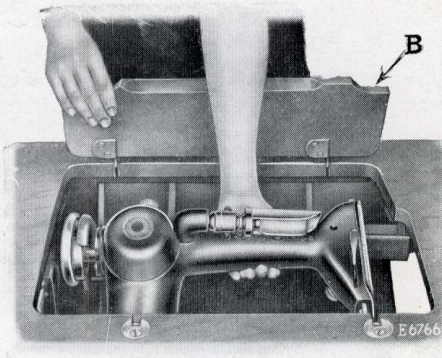
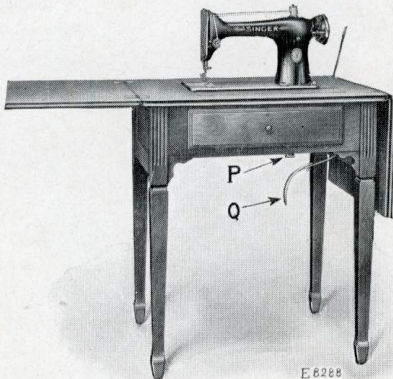

FIG. 5. RAISING MACHINE OUT OF CABINET 40
FIG. 6. KNEE LEVER LOWERED TO OPERATING POSITION
With the right hand raise the front hinged portion (B, Fig. 5) of the table, and at the same time, place the left hand under the front side of the arm of the machine, as shown in Fig. 5, **being very careful not to touch the electric lamp or shade**, and raise the sewing machine head, then replace the hinged portion of the table and lower the machine so that it rests on the table, as shown in Fig. 6.
Pull down the knee lever (Q) to the vertical position as shown in Fig. 6.
Push the terminal plug at one end of the electric cord as far as it will go on the three-pin terminal block under the cabinet, as shown at (P) in Fig. 6.
Raise the sewing machine head out of the cabinet as shown in Fig. 5, **being very careful not to touch the electric lamp or shade**, then turn down the hinged flaps of the table top and lower the machine so that it rests on the table as shown in Fig. 10.
With the left hand grasp the machine around the front side of the arm, turn it slightly back on its hinges, and at the same time, with the right hand, raise the front hinged portion (B, Fig. 5, page 7) of the table, lower the machine head, **being careful not to touch the electric lamp or shade;** then lower the hinged portion (B).